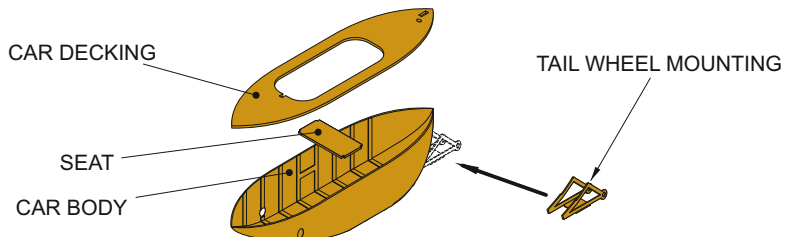

Figure 3
- C Fold the sides up until they are at 90° to the bottom of the car body (see Figure 3).
- H Fold the tail wheel mounting and attach it to the underside of the car body as shown in Figure 3. The lugs on the tail wheel mounting fit into two slots on the outside of the car body.